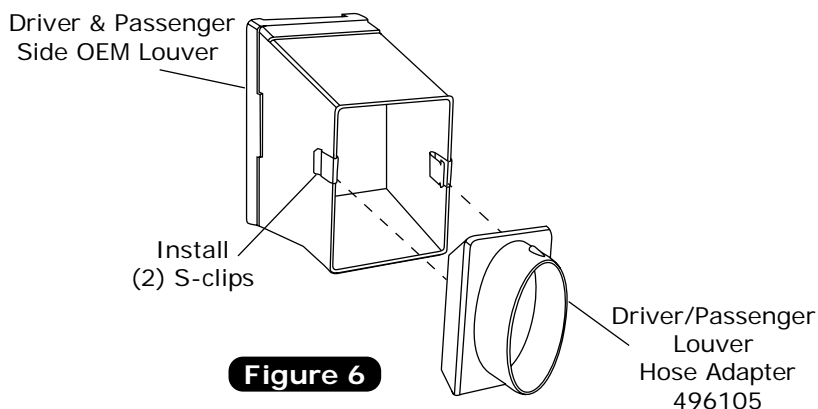

Figure 6
1. Install S-clips onto the driver and passenger side OEM louvers as shown in Figure 6, below.
2. Install the adapters into the driver and passenger side OEM louvers as shown in Figure 6, below.